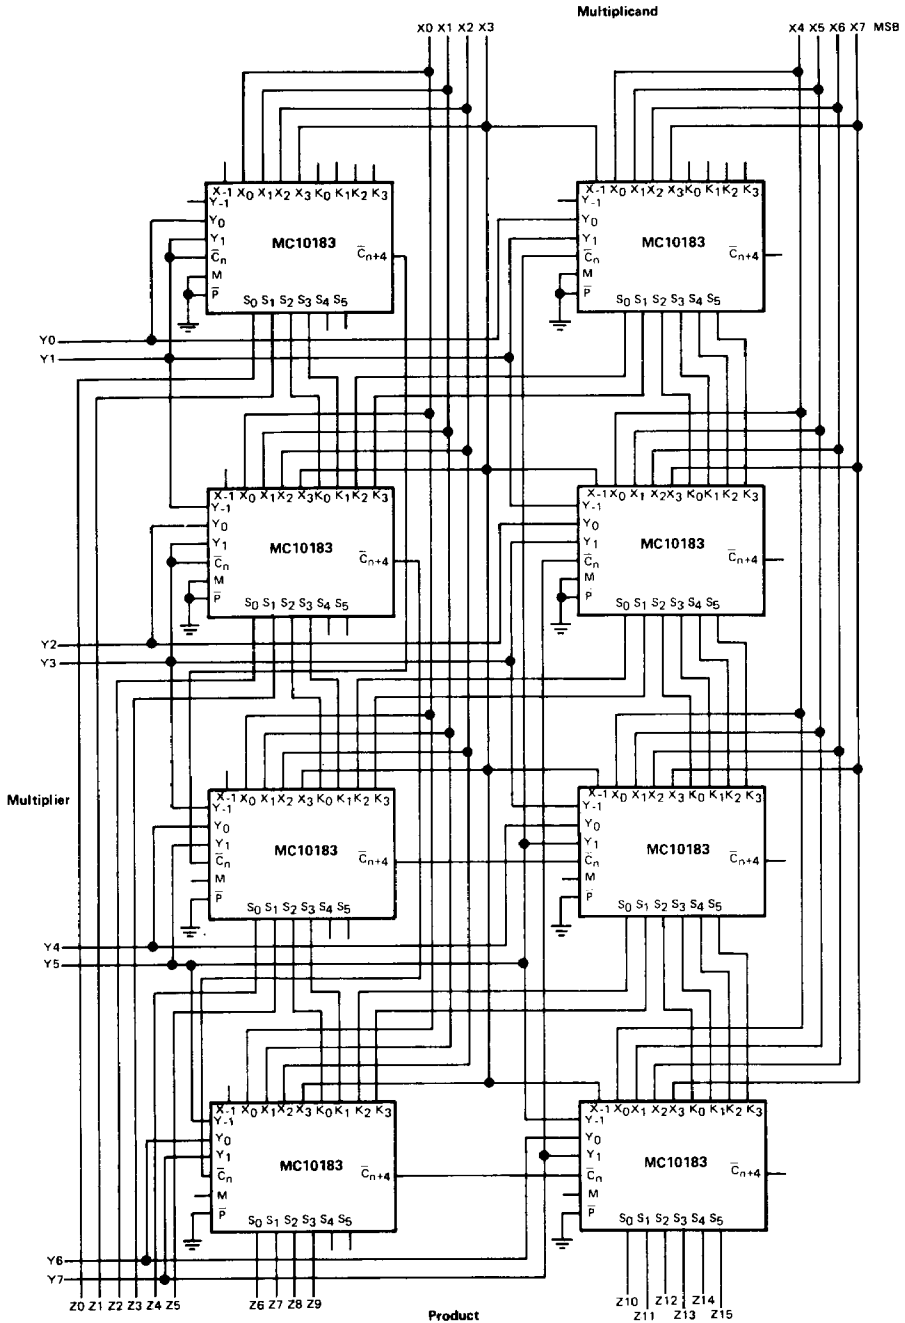

FIGURE 1 - 8-BIT X 8-BIT 2's COMPLEMENT MULTIPLIER
1. For an M-bit by N-bit multiplier, an (M+N)-bit product is formed. The number of MC10183's equals  $(M \cdot N)/8$ . As an example, an 8 X 8 bit (Figure 1) array requires  $(8 \times 8)/8 = 8$  packages.